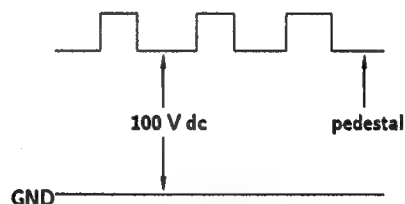

Fig.11
3. Adjust BKG VRs (RV 701, RV 703 and RV 705) so that voltages on the red, green and blue cathodes are 100 V dc with an oscilloscope as shown in Fig.11.